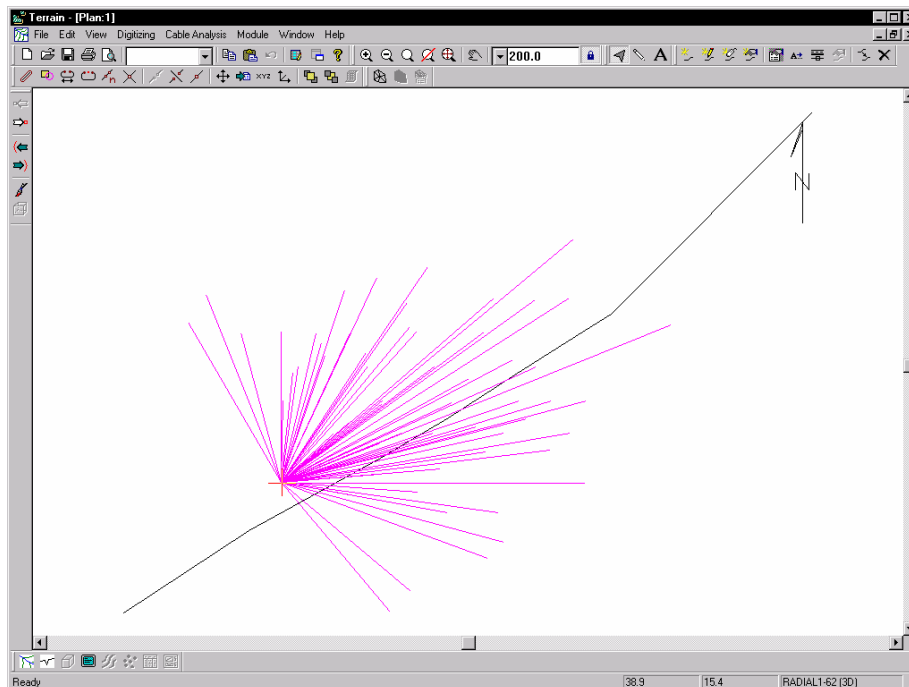

Figure 12.3: Imported Site MAP
4. Press the *Zoom Extents*  button. Your *Imported Site Map* should resemble Figure 12.3.